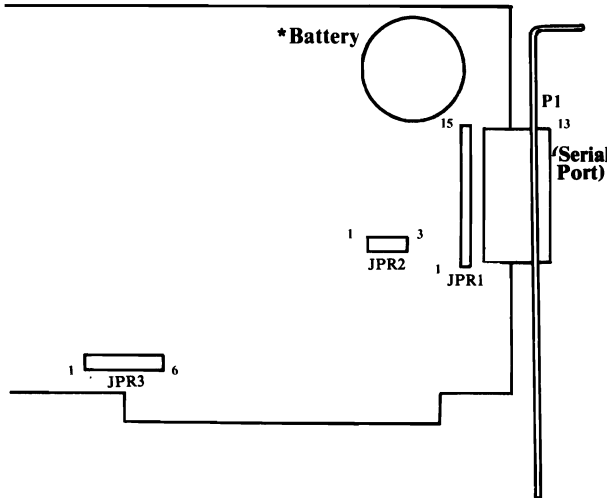

Figure 9
Look at Figure 9 of the right end of the Captain board below. The symbols labelled JPR1, JPR2, and JPR3 represent jumper blocks on the board. The numbers at each end of the jumper blocks represent the first and last jumper positions of each jumper block.
*The Captain clock/calendar backup battery can be replaced by a Matsushita BR2325 or equivalent. The location of the battery is illustrated in Figure 9. To replace it, simply slip it out from beneath the clip which holds it in place. Slip the new one into place with the same orientation as the original.